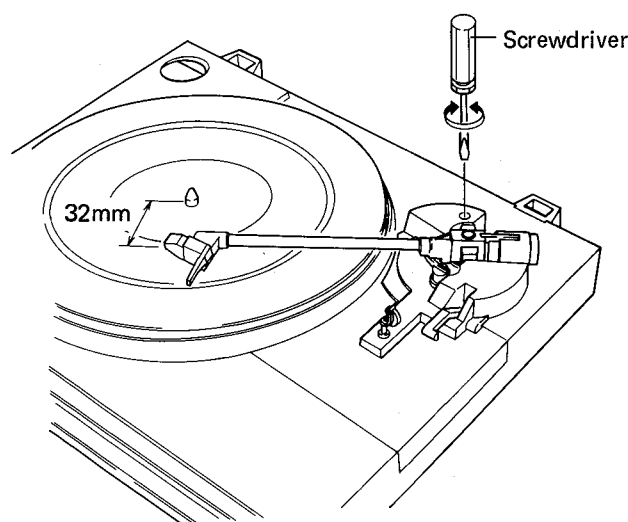

Fig. 10-1 Auto-return adjustment
5. Stop turning the adjustment screw at the point at which there is a space of 32mm between the cartridge stylus and the center shaft. (Fig. 10-1)